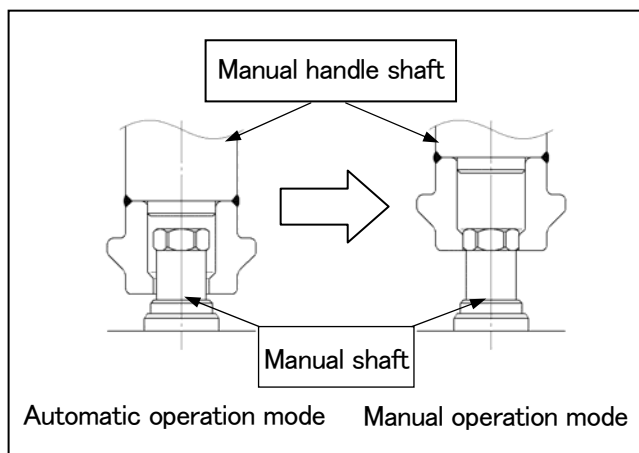
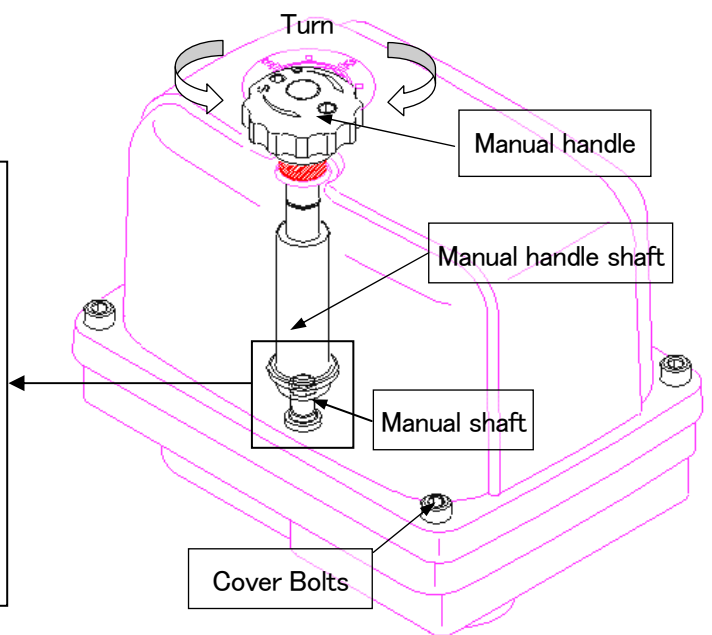

Fig. 25
Fig. 26
- ① Pull up a handle, while turning right and left, for manual operation mode where a manual gear (hexagonal) and a manual handle shaft (dodecagonal) are securely engaged each other (Fig. 25 and Fig. 26).